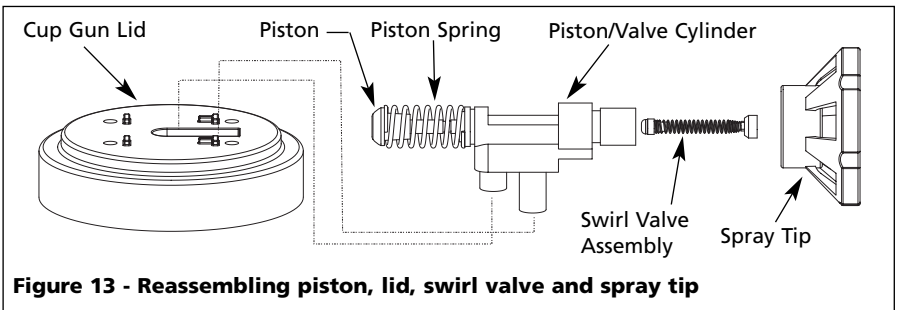

Figure 13 - Reassembling piston, lid, swirl valve and spray tip
- Reassemble piston, lid, swirl valve, and spray tip (see Figure 13).